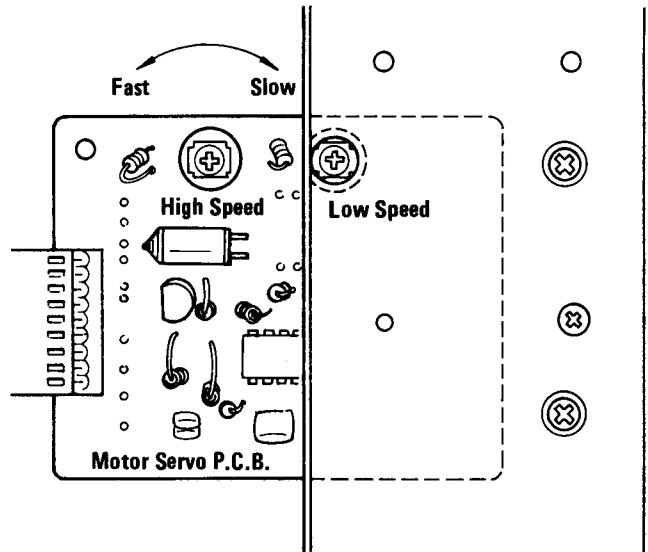

Fig. 2-10
- Play the middle of the test tape and adjust the HIGH speed trimmer resistor until the frequency counter indicates a reading of 3000 Hz (± 5 Hz). See Fig. 2-10. (CAUTION: Use an insulated screwdriver to prevent shorting.)